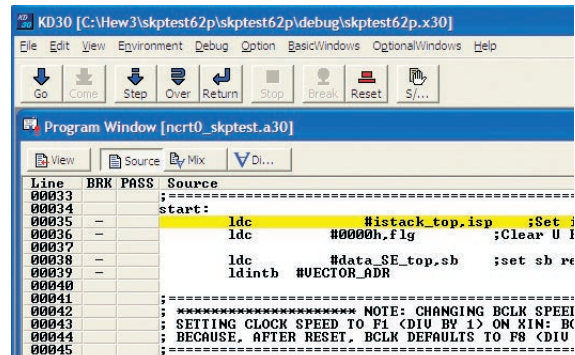

Figure 6. KD30 Program Window after download of skptest62p
- d) After initialization, the KD30 Program Window will appear and our program, “skptest62p.x30”, is automatically downloaded. The KD30 Program Window should look like Figure 6.